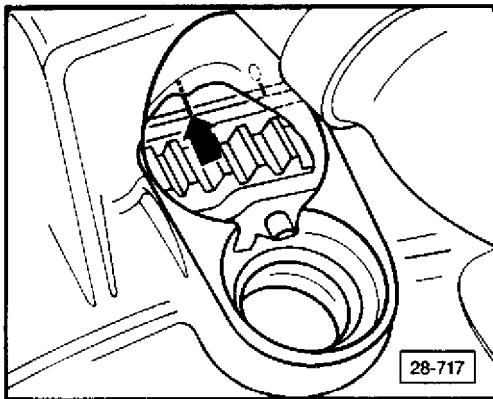

Fig. 3: Ignition Timing Marks
- Direct strobe on to fly wheel opening. See Fig. 3.